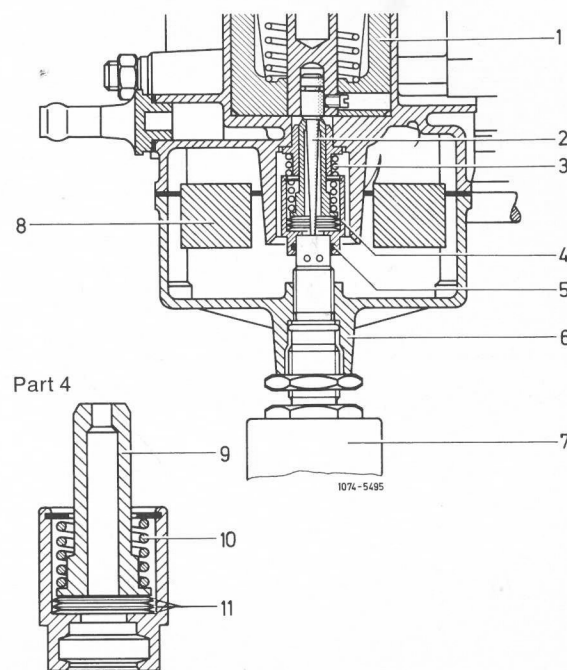

Fig. 19
The bimetallic discs (11) will slightly adjust the needle nozzle (9) in accordance with fuel temperature (Fig. 19).